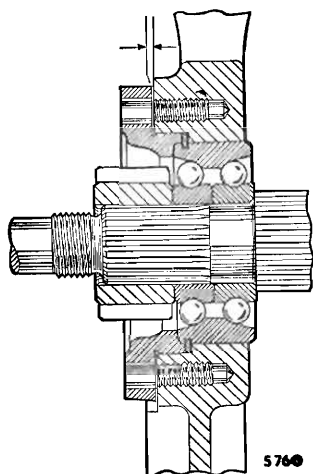

Fig. F.3
- (22) Reverse the dismantling instructions, noting the following points.
- (23) Refers to item (18). Replace the third motion shaft assembly with the slotted end passing through the centre web of the casing. Engage the first and second sliding hubs with the selector forks.
- (24) Refers to items (16) and (18). Fit the ball race onto the first motion shaft and the shaft into the casing. Position the third motion shaft bearing in the centre web of the casing. Drift the two bearings into position together; use Service tool 18G 579 with the distance collar for the third motion shaft bearing and the same tool without the collar for the first motion shaft.
- (25) Refers to item (14). Refit the layshaft using Service tool 18G 471 to hold the thrust washer in position as the shaft is inserted. The end clearance must be between .002 and .006 in. (.05 and .15 mm.) and a range of thrust washers of various thicknesses is available for adjustment. Turn the layshaft and the reverse shaft to line up their slotted ends. Replace the third motion shaft bearing retainer with shims between the bearing outer race and the retainer (Fig. F.3).
- (26) Refers to item (9). Grease the sealing ring between the strainer and bracket to help in preventing the pipe from displacing it. Insert the suction pipe.
- (27) Refers to item (2). Use Service tool 18G 581 to refit the idler bearing.